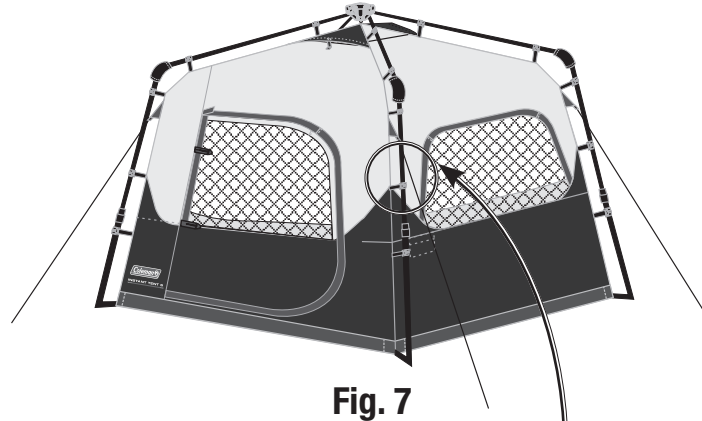

Fig. 7
- Verify the clips along the edges of the tent are properly attached to the frame poles. (Fig. 7 and 8)